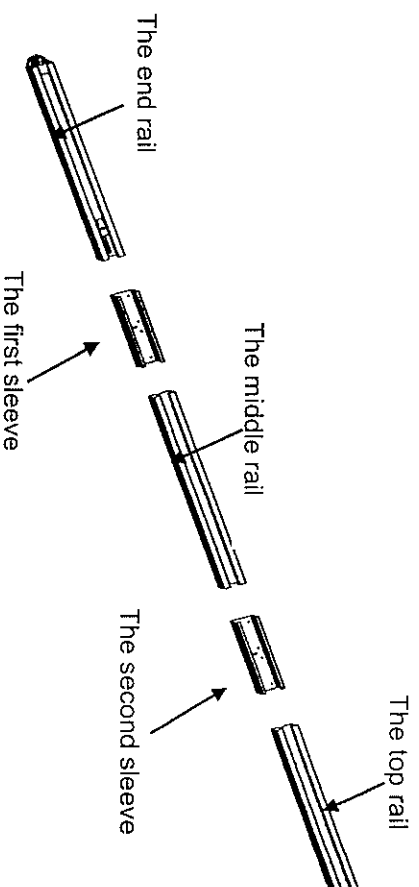

Fig. 8
2. As Fig.8,slide the 2nd sleeve to the other end of middle rail,slide the top rail into the 2nd sleeve;